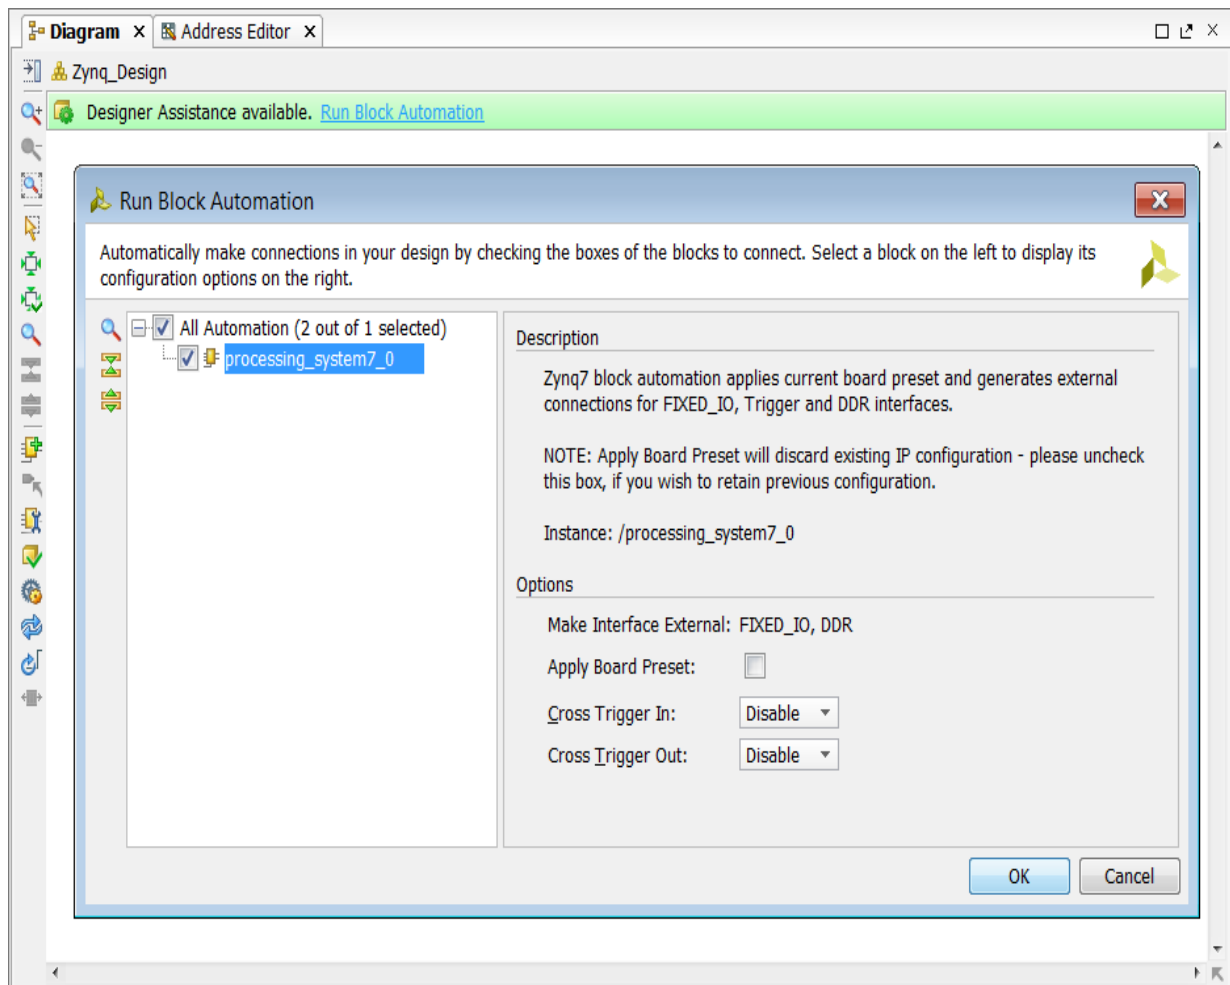

Figure 10-16: Run Automation
6. Click the **Run Block Automation** link under the title bar (Figure 10-16).
- b. Ensure **Apply Board Presets** is deselected. If this remains selected it re-applies the timers that were disabled in step 4 and results in additional ports on the Zynq block in Figure 10-16.